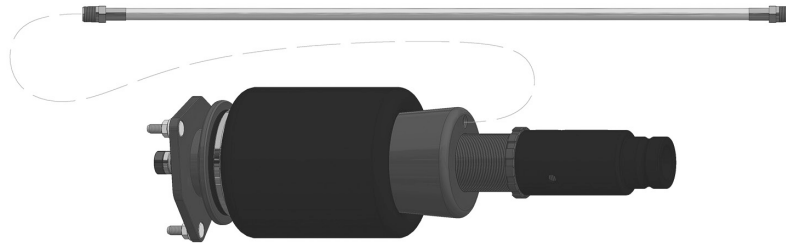

Fig. 5
1. Begin by installing the leader line into the air spring. Tighten the appropriate fitting to the air line (1 3/4 turns beyond hand-tight). Tighten the leader line into the air spring 1 3/4 turns beyond hand-tight (Fig. 5).